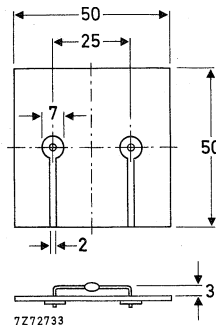

Fig. 2 Device mounted on a printed-circuit board.
2. Thermal resistance from junction to ambient; device mounted on an 1,5 mm thick epoxy-glass printed circuit board; Cu-thickness  $> 40\text{ }\mu\text{m}$ ; Fig. 2